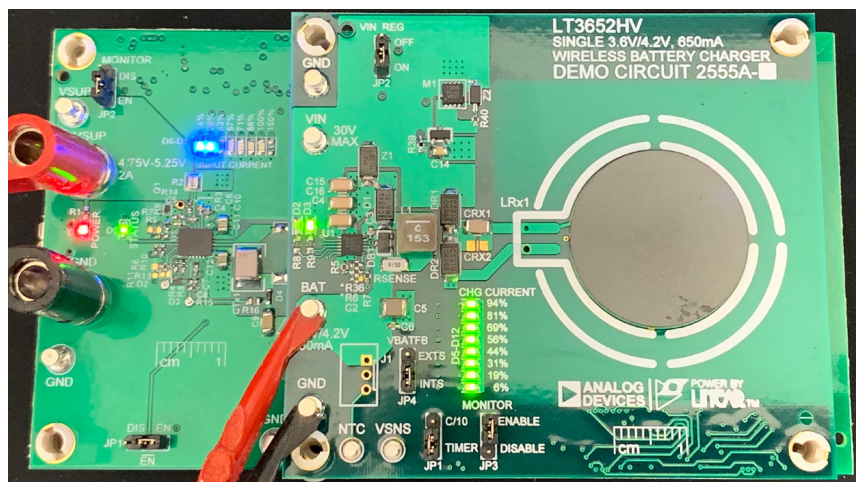

Figure 3. DC2555A-A-KIT in Operation
Refer to Figure 3 to 5 for the proper measurement equipment setup, DC2555A (for both -A and -B) mounting on DC2556A, and follow the procedure below:
1. Place the DC2555A board atop the DC2556A board by aligning the mounting standoffs (Figure 3). This should result in the transmit coil being directly above the receive coil, with the centers aligned. The DC2554A-A-KIT/DC2554A-B-KIT ships with two additional standoff sizes. This allows the air gap to be varied from 5.25mm to 11.65mm.